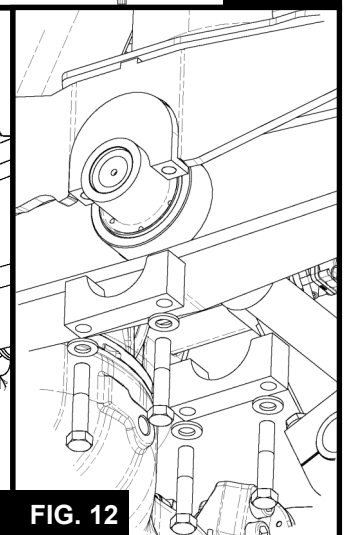

FIG. 12
- 6.8** Remove the 3/4" bolts connecting the walking beam and trailing arm (**See FIG. 12**).